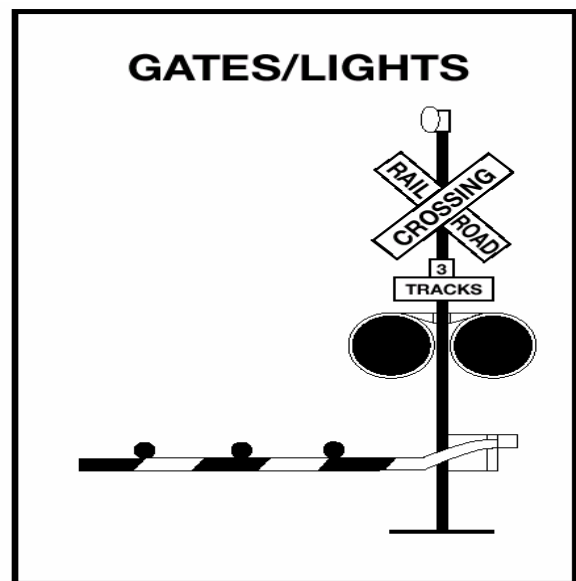

Figure 2.18
**Flashing Red Light Signals.** At many high way-rail grade crossings, the crossbuck sign has flashing red lights and bells. When the lights begin to flash, stop! A train is approaching. You are required to yield the right-of-way to the train. If there is more than one track, make sure all tracks are clear before crossing. See Figure 2.18.
**Gates.** Many railroad-highway crossings have gates with flashing red lights and bells. Stop when the lights begin to flash and before the gate lowers across the road lane. Remain stopped until the gates go up and the lights have stopped flashing. Proceed when it is safe. See Figure 2.18.